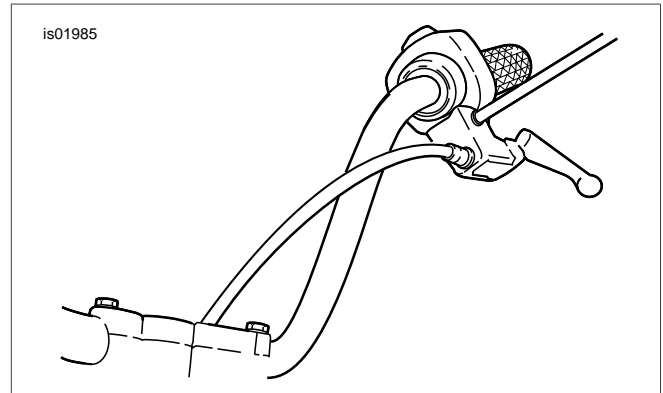

Figure 1. New Clutch Cable Routing
For all except FXSTB: See Figure 1. Relocate the clutch cable to the inside of the handlebars as follows:
- d. See Figure 1. Route clutch cable to the inside of the handlebars and reconnect clutch cable to clutch lever.